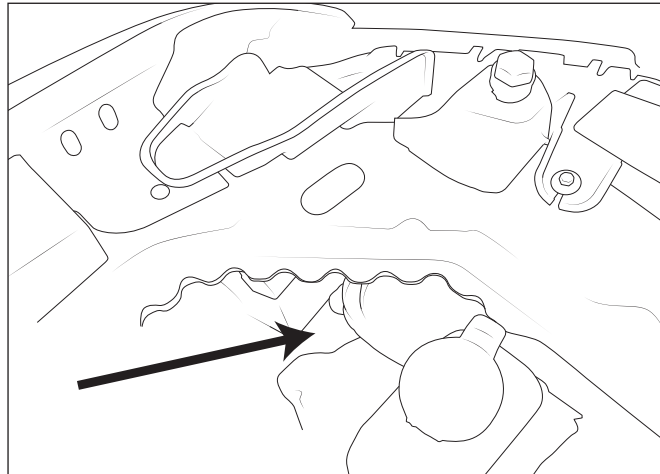

Figure 15
6. Remove ground cable from winch motor and route through the bottom of the engine bay in location shown (fig. 15).